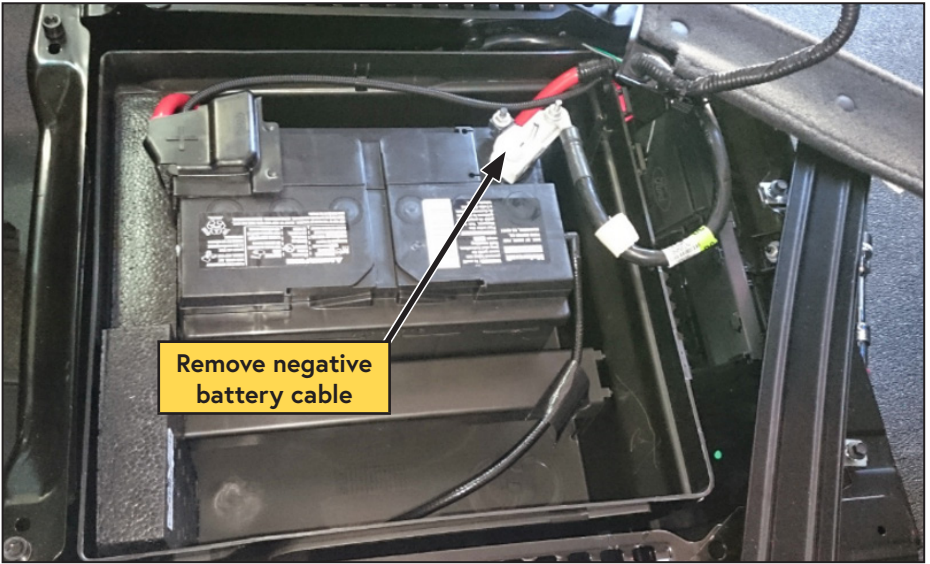

Figure 8 — Battery cables
- Disconnect the negative battery cable from the battery terminal stud (Figure 8).